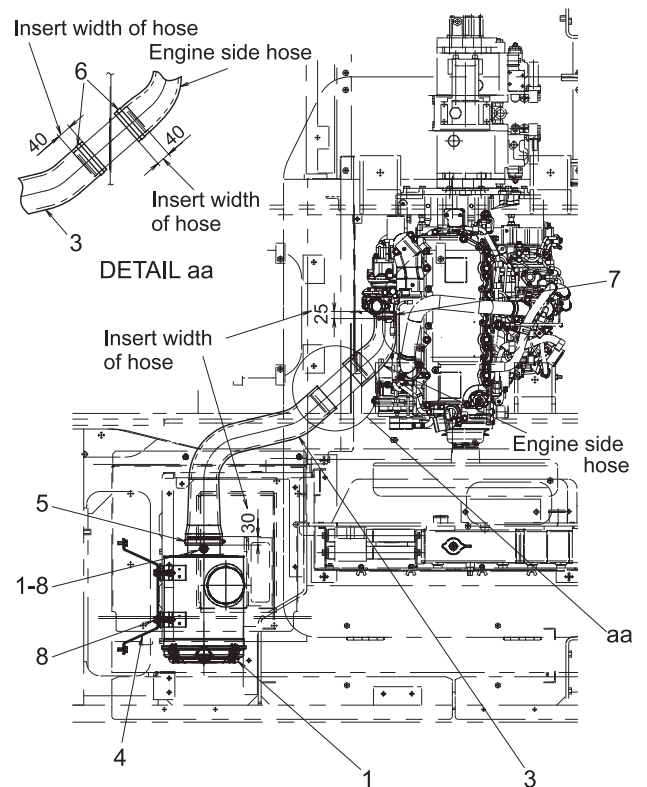

Fig. 33-49 Removing air cleaner
(See Fig. 33-49)
- 1) Put in air hoses (2), (3) to the end as shown in Fig. 33-49.